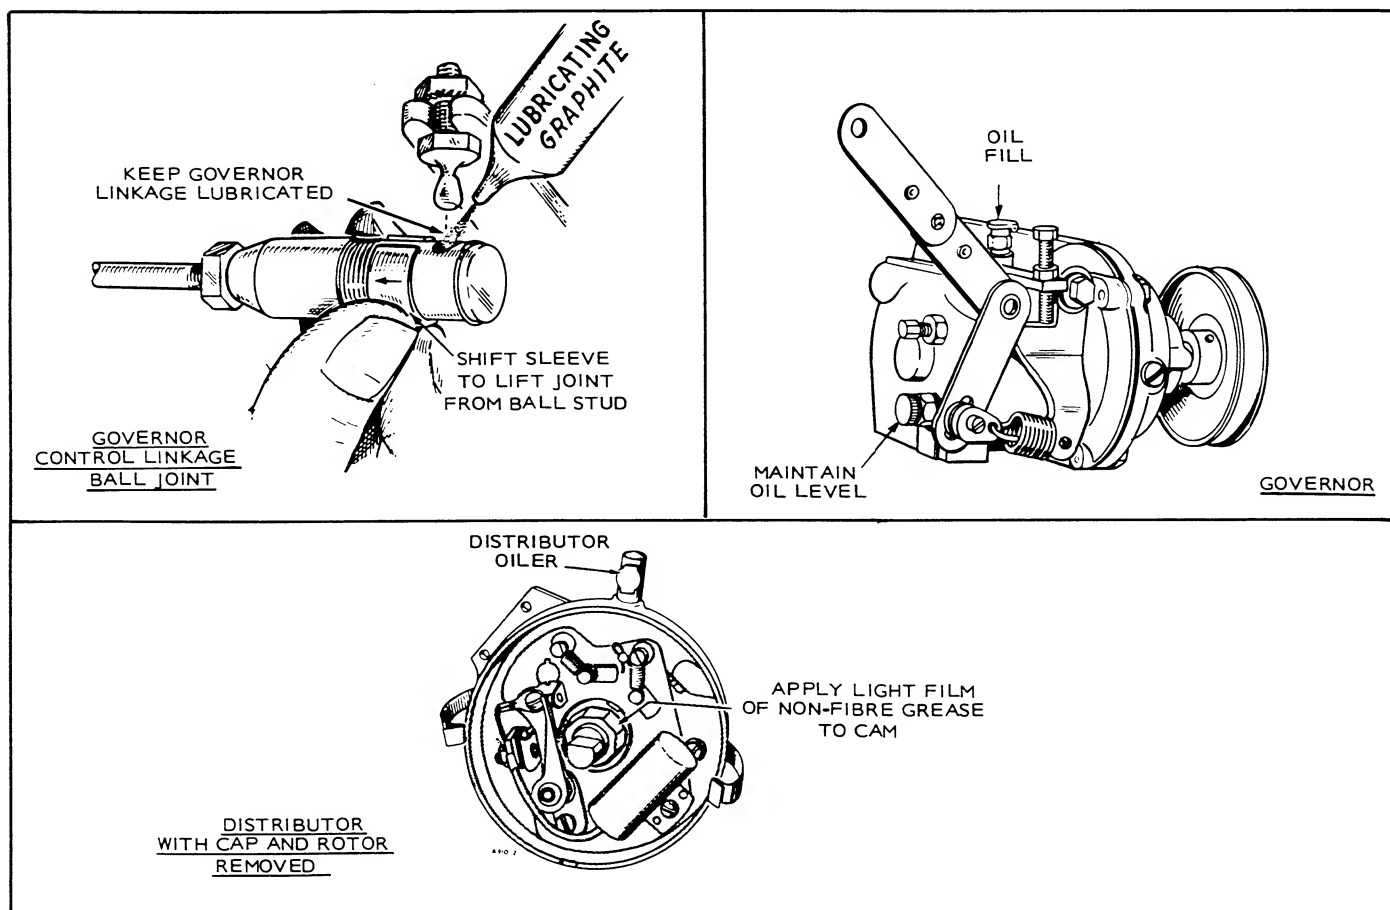

FIGURE 34. MAINTENANCE
* - See Figure 34.
Governor oil level should be even with bottom of the oil level plug. When adding oil to the governor, the oil should just start to flow out of the oil level plug hole. Do not overfill. See Figure 34.
Control linkage ball joint should be kept lubricated with graphite. If ball joint is neoprene, do not lubricate. Apply a light film of grease to distributor cam. See Figure 34.